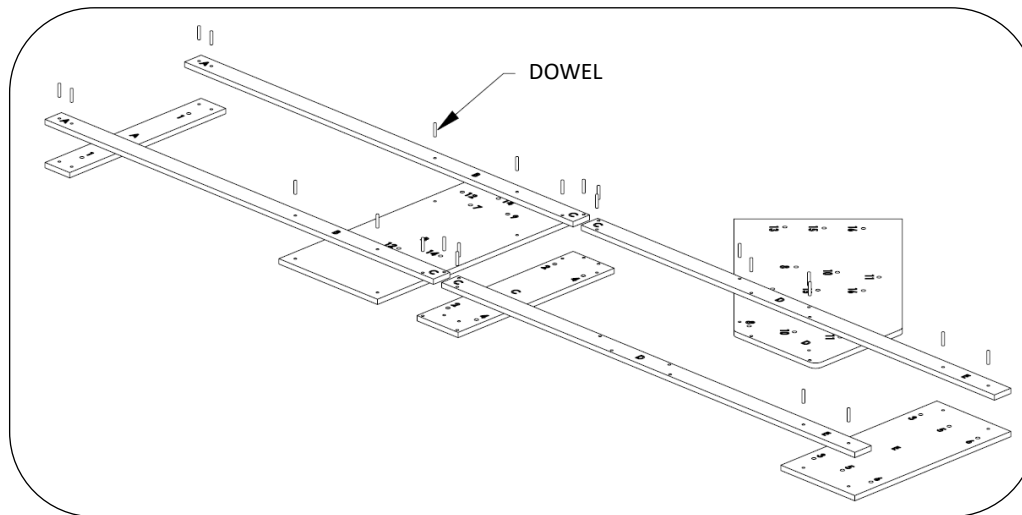

Fig. 3
3. Benches that have adjoining legs with multiple sections of seating will use some combination of end segment and intermediate segments. Refer to Fig. 3 for examples.